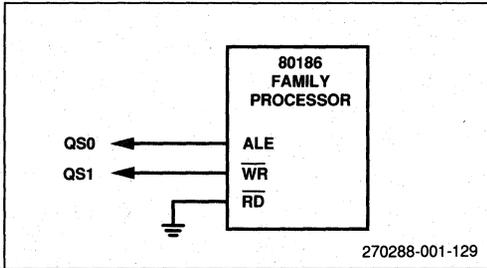
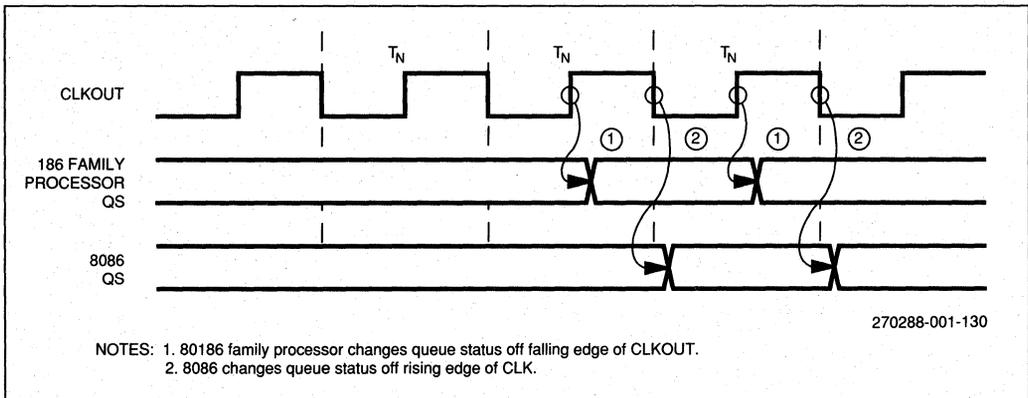

Figure A-1. Generating Queue Status Information
Figure A-2. 80186 Family and 8086 Queue Status Generation
- The \overline{RD} input must be tied LOW to provide queue status outputs from the 80186 family processor (see Figure A-1). When so strapped into Queue Status Mode, the ALE and \overline{WR} outputs provide queue status information. Notice that queue status information is available one clock phase earlier than from the 8086 (see Figure A-2).